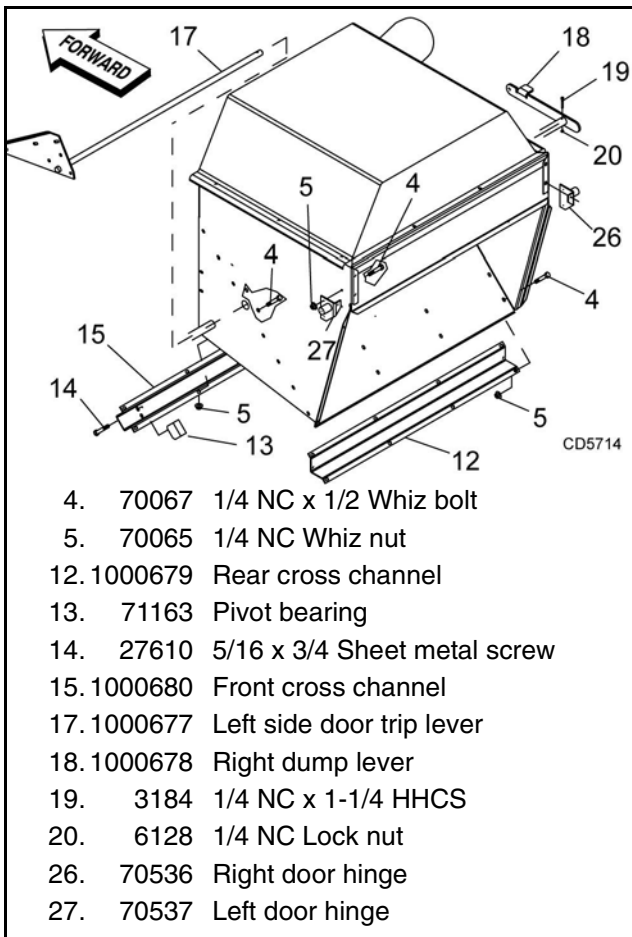
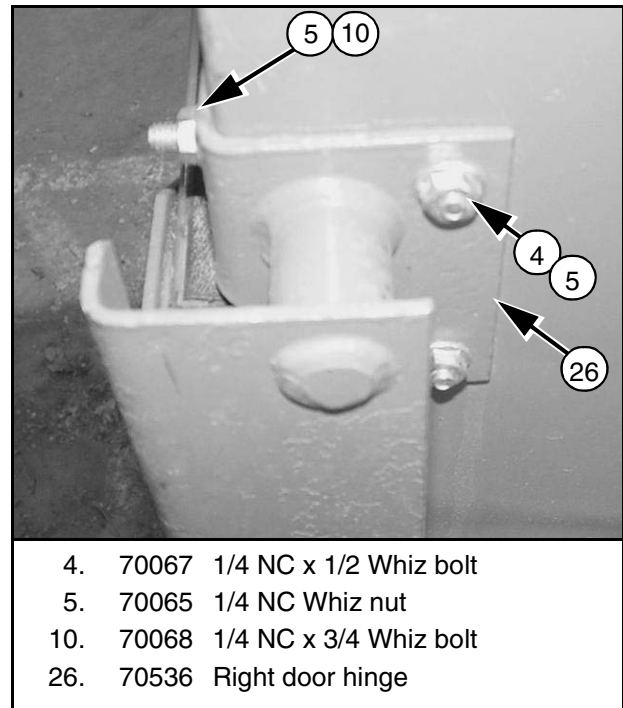

Figure 4. Crossmember Installation
Figure 5. Right Door Hinge Mount Installation
**NOTE:** Do not install bolts in side holes where upper and lower crossmembers will mount (refer to Figure 4, items 12 & 15).
2. Make sure two pivot bearings (13), (Figure 4) are attached to the inside of front cross channel (15) using sheet metal screws (14). Do not tighten at this time.
3. Slide left side door trip lever (17) through opening on left side panel, pivot bearings (13) attached to front cross channel (15), and right side panel.
4. Secure front cross channel (15) to bottom panel using whiz bolts (4) and whiz nuts (5). Tighten sheet metal screws.
5. Attach right dump lever (18) to door trip lever (17), so that both bars face forward. Secure using cap screw (19) and lock nut (20).
6. Mount rear cross channel (12) on outside of bottom panel using whiz bolts (4) and whiz nuts (5) as shown. Make sure pivot hinge is at the bottom.
7. Attach left and right door hinge mounts (26, 27) to back and side panels as shown in Figure 5. Use whiz bolt (10) and whiz nut (5) to secure hinge mount to back panel.